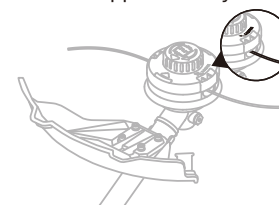

Fig. 8B
2. Insert the cutting line into the eyelet that is marked "LINE IN" on the spool. (Fig.8B)